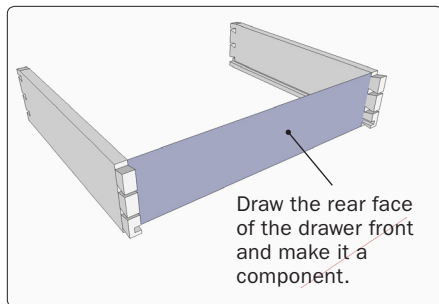

Figure 60. Rough in the drawer front.
Step 48 Begin drawing the drawer front in position between the drawer sides. Draw one face (it will be the back face) aligned with the dovetail shoulders, as shown in Figure 60. Begin drawing at the top outside corner of the dovetail shoulder on the left side, and extend the line to the top outside corner of the shoulder on the right side. Continue drawing to complete the rectangle. Make this face a component.